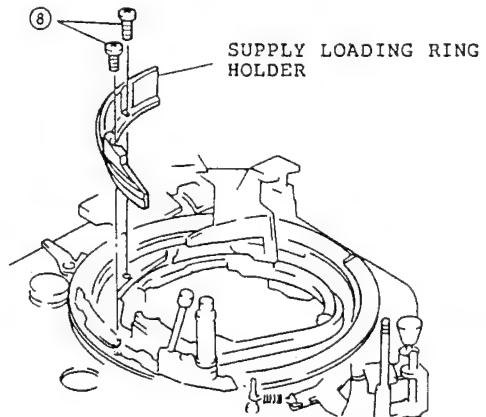

Fig. 2-86
(See Fig. 2-86)
16. Remove the supply loading ring holder. (See Fig. 2-86)